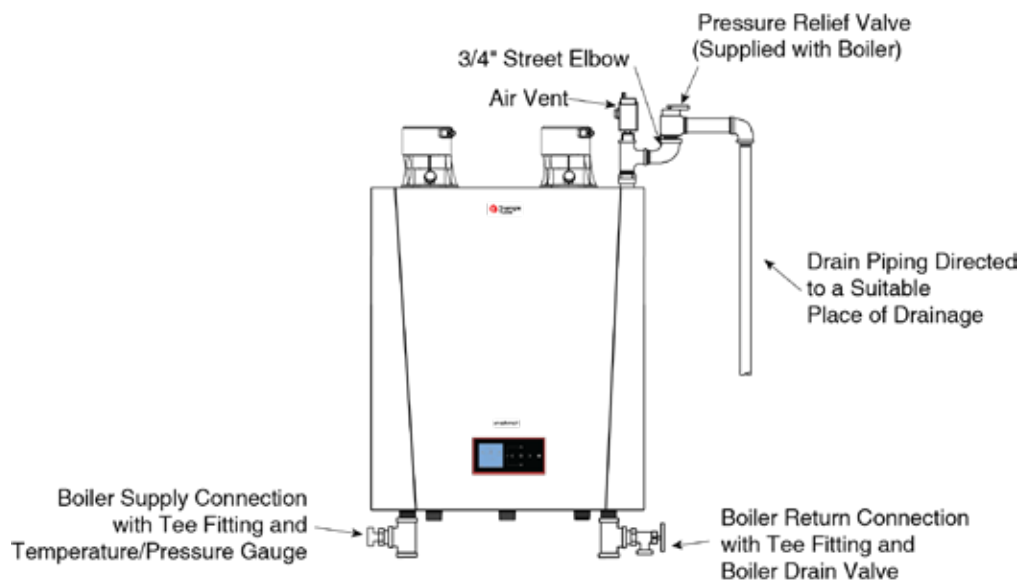

Fig. 6 - INSTINCT Pressure Relief Valve, Drain Valve, T&P Gauge Installation
1. The INSTINCT is supplied with a 30 psi pressure relief valve and must be piped using the PRV connection as shown in Fig. 6 below.